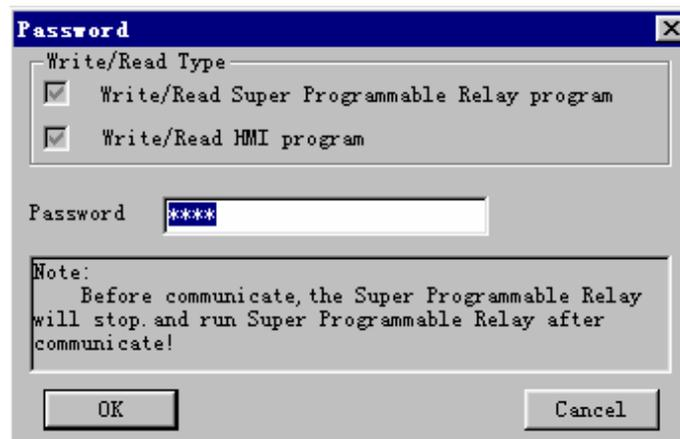

Fig 4.36 Confirm Password
- c.click option “PC->Super Programable Relay” under menu “Controller”; or click button  in toolbar, dialog box shown as fig 4.36 appears, input your password (attn: the original password is 2002).
- a. Click option “Super Programable Relay->PC” under menu “Controller” with left button of mouse, or click  under toolbar, dialog box like fig 4.36 appears, input your password